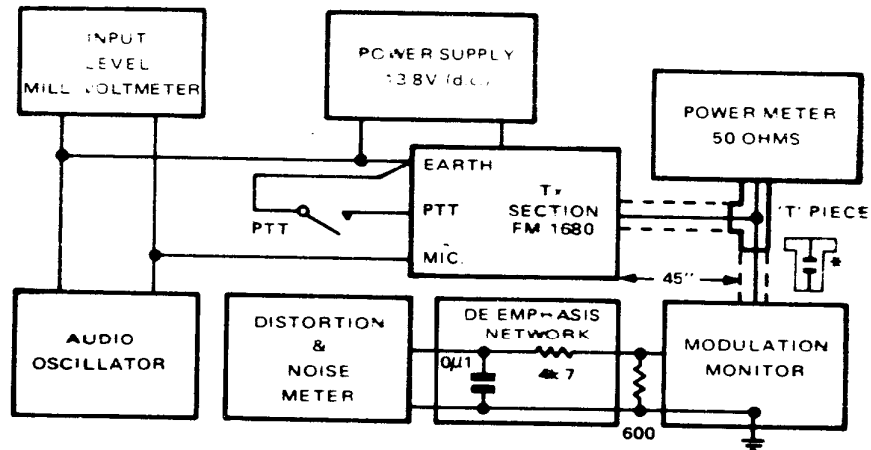

Figure 1
1. Set up the equipment as shown in Figure 1.
1. Check that the test equipment is connected as shown in Figure 1.
1. Remove all test equipment shown in Figure 1 except the Power Supply and Power Meter.